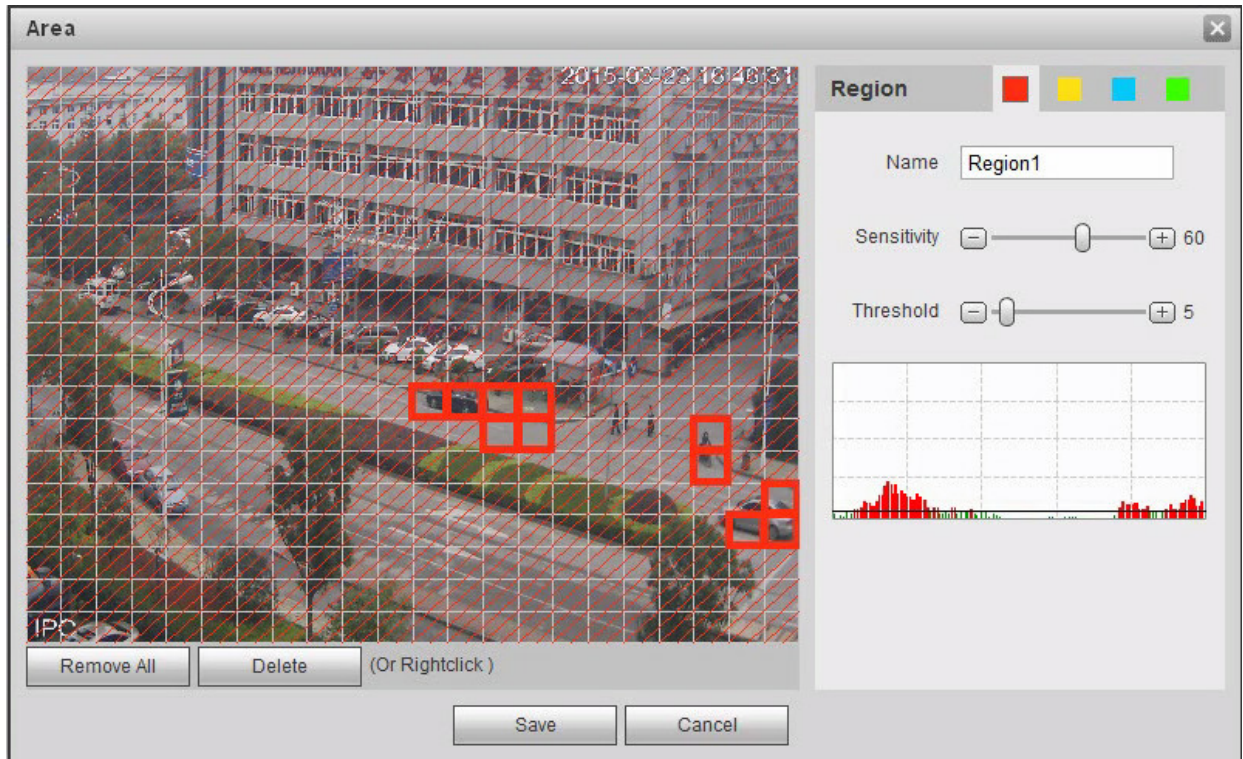

Figure 5-65
1. Click “Setup” and the system will pop out the interface of “Setting Area”, which is shown in Figure 5-65